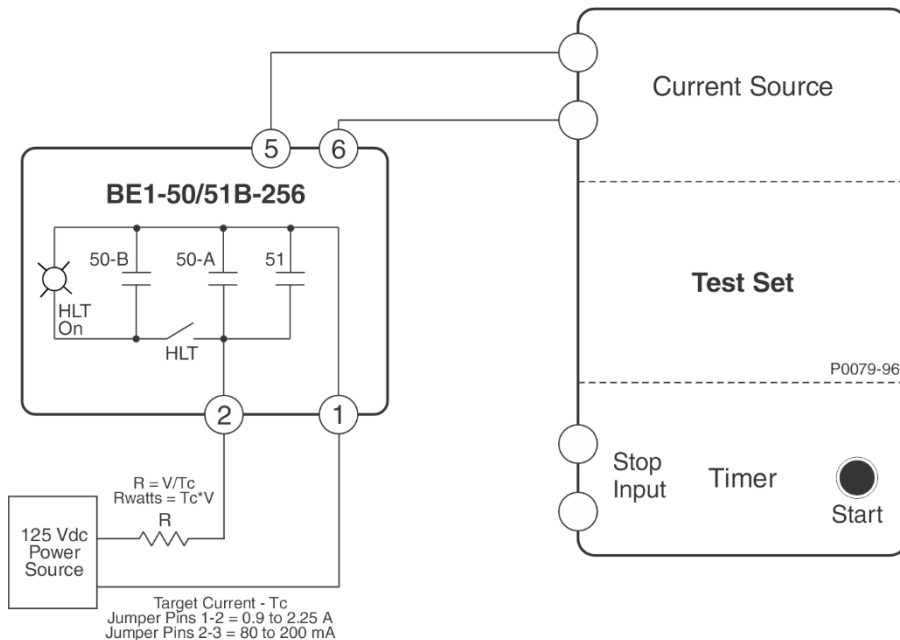

Figure 5-2. Target Indicator Test Setup
- a. Connect the test setup shown in Figure 5-2.
- a. Connect the test setup as shown in Figure 5-2.